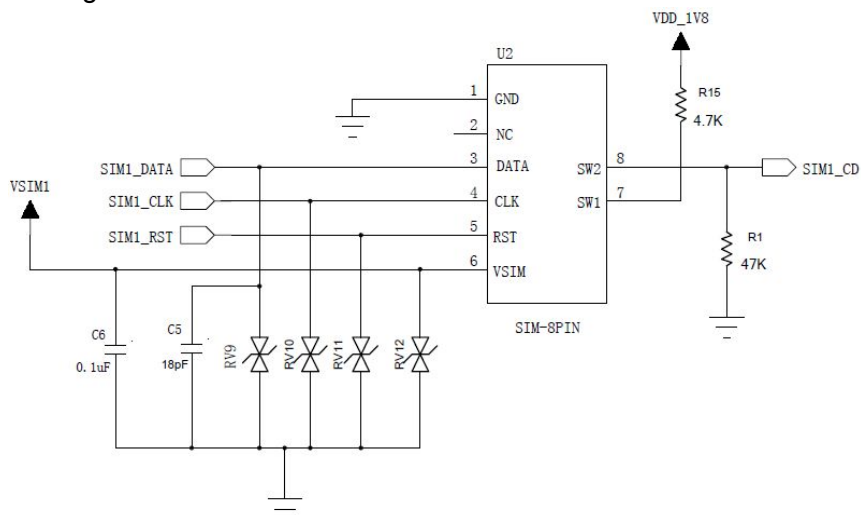

Figure 5-8 Reference Design of “Normally Open” SIM Card Interface
- For “Normally open” design, as shown in the figure5-8, the SIM1_CD signal is connected to U2's Pin8